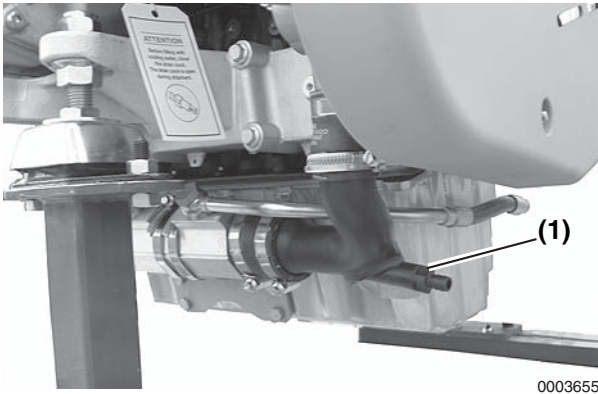

Figure 7-24
1. Drain the seawater circuit by loosening the drain cock (**Figure 7-24, (1)**) in the outlet pipe.